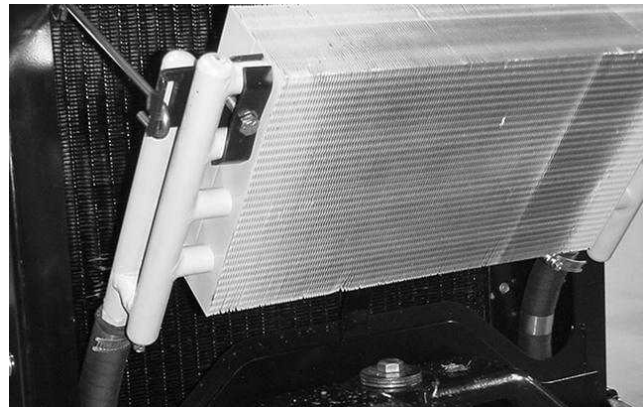

Figure 43
3. Unlatch the oil cooler and pivot it rearward (Fig. 43). Clean both sides of the oil cooler and radiator area thoroughly with water or compressed air. Pivot the oil cooler back into position.